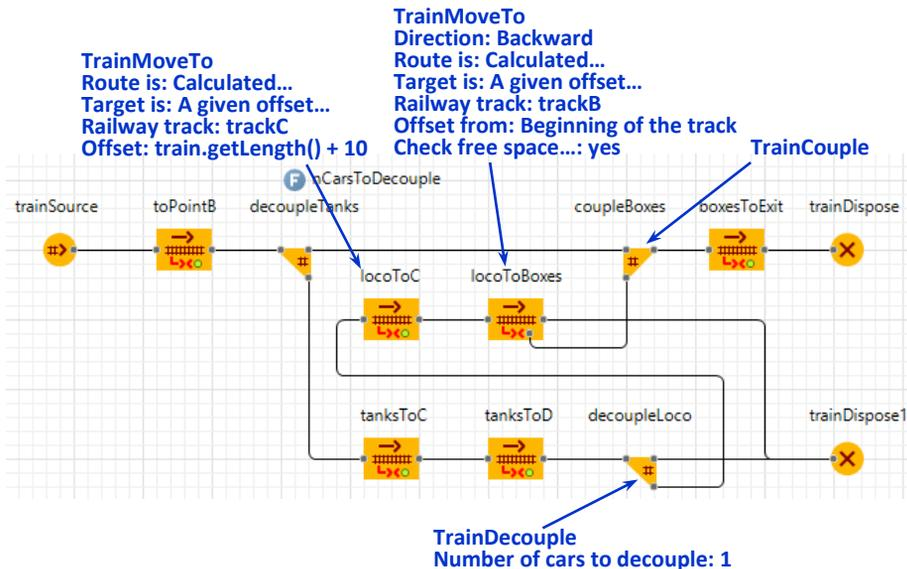

Figure 9.22 The 2nd step of classification: loco returns to box cars, picks them up, and drives away
22. Add more blocks to the flowchart and set their parameters as shown in Figure 9.22. Leave the parameters of the blocks **coupleBoxes** and **boxesToExit** at their default values. Note that the output port of **locoToBoxes** is different: it is **outHit** port.